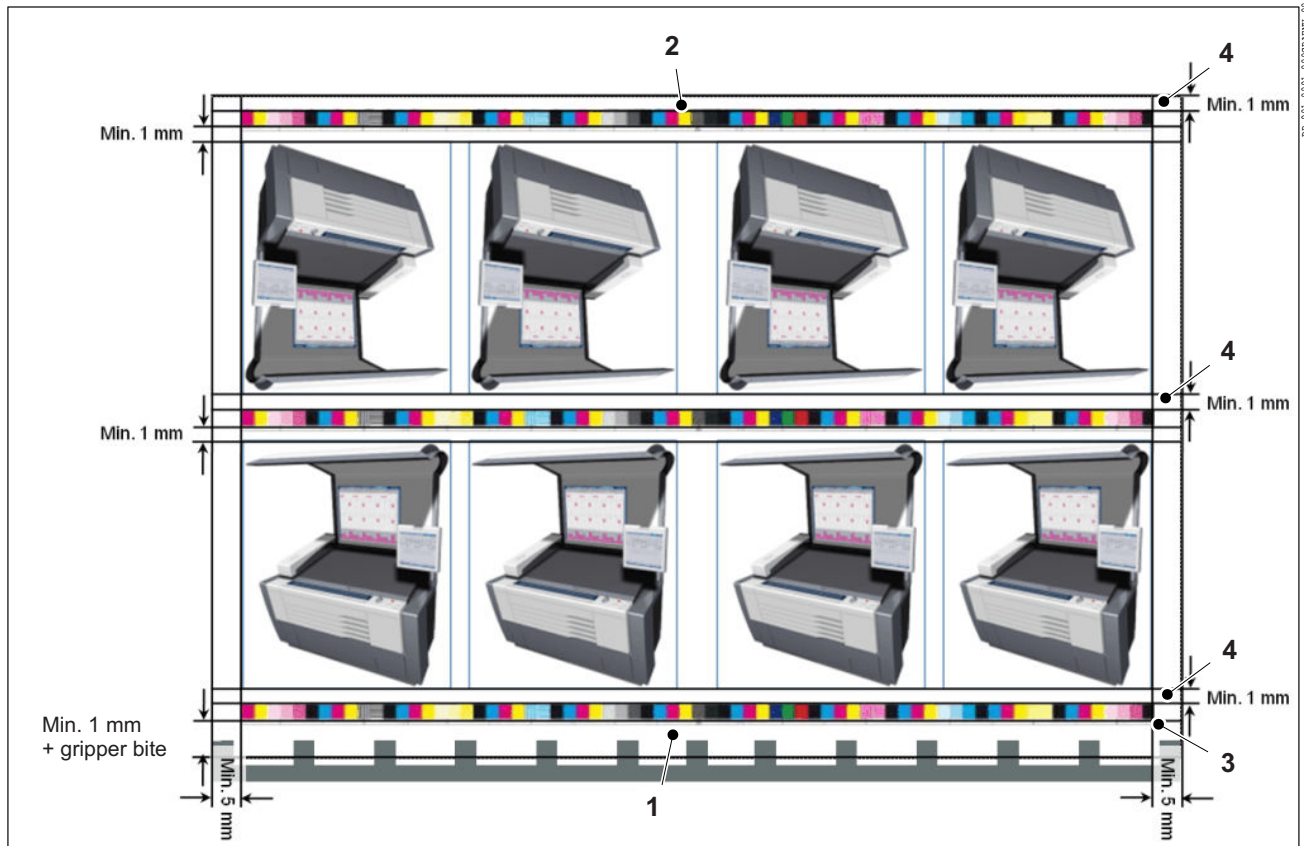

Fig. 24 Mounting Prinect Axis Control on Prinect Press Center and Press Center XL 2
- You can mount the quality control strip at any position you wish between the gripper margin (Fig. 24/1) and the rear edge of sheet (Fig. 24/2).
- In order to facilitate the automatic paper white measurement and detection of the quality control strip, there must be at least 5 mm of paper white between the lateral sheet edges and the start of the quality control strip (Fig. 24/3).
- If you are working with auto tracking, there must be a gap of at least 1 mm of paper white from the color measurement field to the printed image and to the rear edge of sheet (Fig. 24/4).